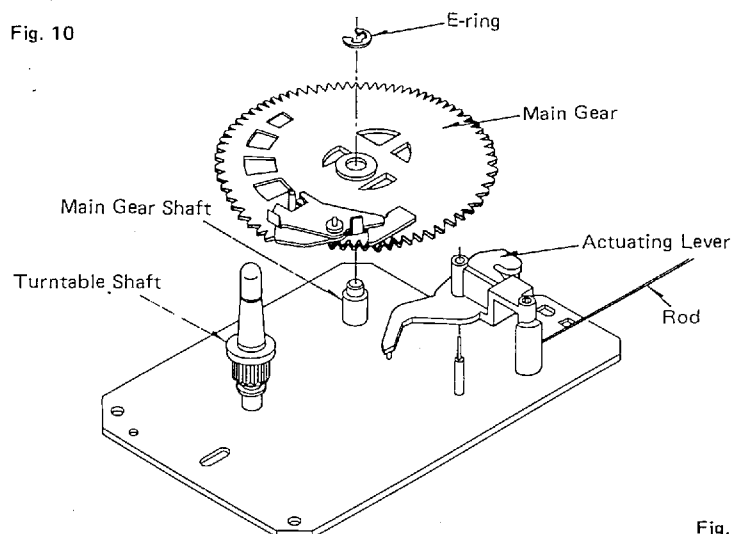

Fig. 11
5. Remove the E-ring holding the main gear (Fig. 11). The main gear can then be removed.